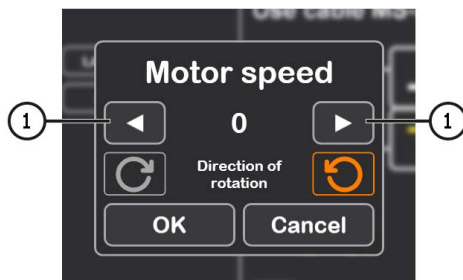

Figure 26
- 4.1. After activating the diagnostics mode, a preliminary alternator check window will open, see Figure 26.
4.2. Using the alternator drive control buttons (see item 1 in Figure 26), set the speed of the alternator pulley rotation within the range of 100 to 150 rpm.
4. Before activating the diagnostic mode, a preliminary alternator check window will open, see Fig. 26.
5. After clicking the "Automatic test" button, a preliminary alternator check window will appear, see Figure 26.
5.1. Using the alternator drive control buttons (see item 1 in Figure 26), set the speed of the alternator pulley rotation within the range of 100 to 150 rpm.
5. Press the “**Manual test**” button; the alternator preliminary test window will open (see Fig. 26).
6.1. Using the alternator drive control buttons (see item 1, Fig. 26), set the alternator pulley rotation speed within the range of 100 to 150 rpm.